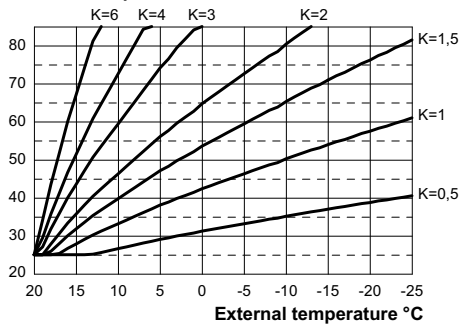

Fig. 7.16
If the boiler is **EQUIPED** with the remote control (optional) refer to Fig. 7.16.
When installing the external probe it is necessary to set this parameter based on the efficiency of the heating plant in order to optimise the flow temperature (Fig. 7.16).
E.g. In order to have a flow temperature at the heating plant of 60°C with an external temperature of -5°C, set a K at 1.5 (sectioned line in Fig. 7.16).
- Using keys 10 or 11 it is possible to change the value of parameter 15 from a minimum of **01** to a maximum of **60** based on the selected bend of the K coefficient in Fig. 7.16 (the value read on the display corresponds to K coefficients decimal values).